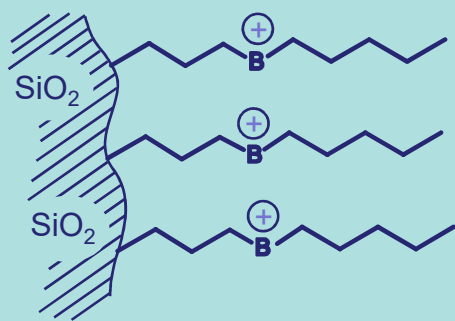

Fig. 4. Schematic structure of PEI columns surface chemistry
Some applications may call for Evaporative Detection modes such as Evaporative Light Scattering Detection (ELSD), Charged Aerosol Detection (CAD), and Electrospray Ionization (ESI) for Mass Spectrometry (MS). This method can be easily adapted for evaporative detection as shown below in Fig. 4. The Cu(II) complex is not needed to enable evaporative detection, so unadulterated PEI samples can be injected directly on to the column for analysis.